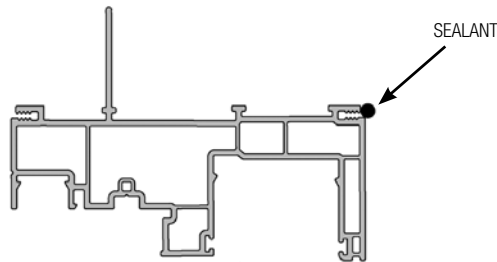

FIG. 1
- A) Place a 1/8" diameter bead of 100% neutral cure sealant around the perimeter interior accessory groove. (Fig. 1)